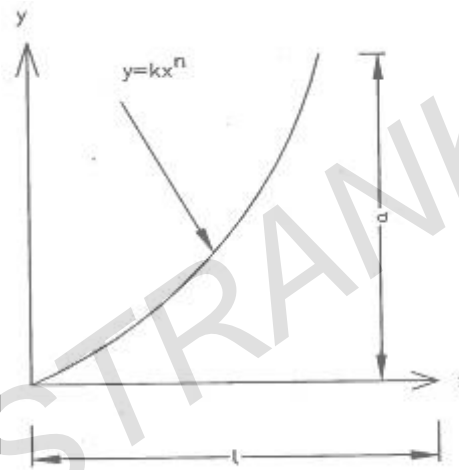

Figure 7
1. The area shown in figure 7 is revolved about x-axis to form a homogeneous solid of revolution of mass 'm'. Determine the mass moment of inertia of the solid about x-axis. [16]